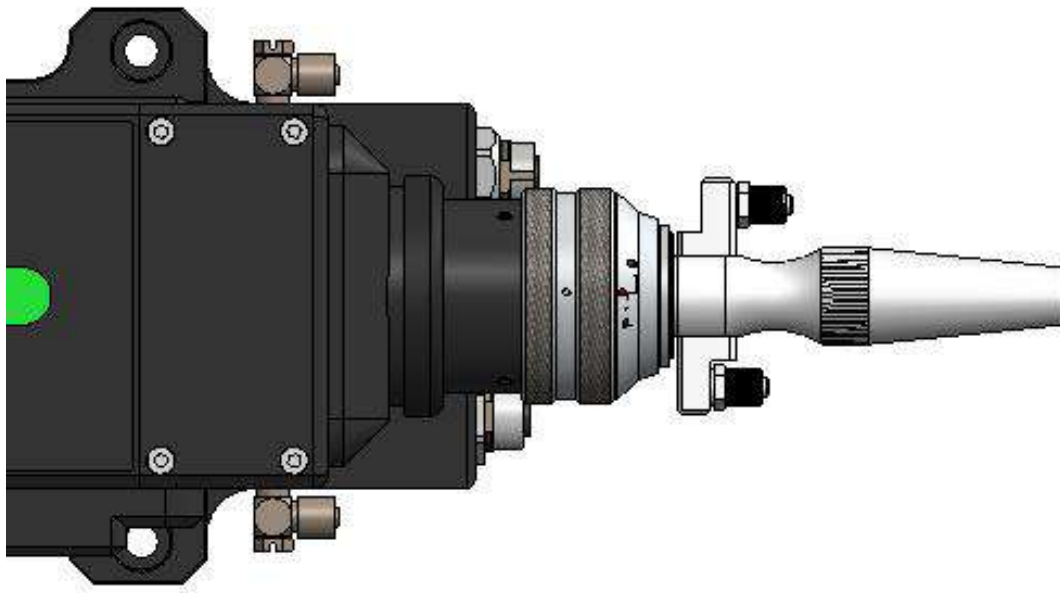

Figure 2.0
- ⑤ Screw it toward the limit position clockwise (a "thud" sound can be heard), then lift the swivel nut up and screw the nut clockwise again until the fiber splice is compacted tightly, and turn the QBH connector to the locked state (Do not twist it with great force, otherwise the internal structure of the QBH may be damaged). As shown in Figure 2.0: